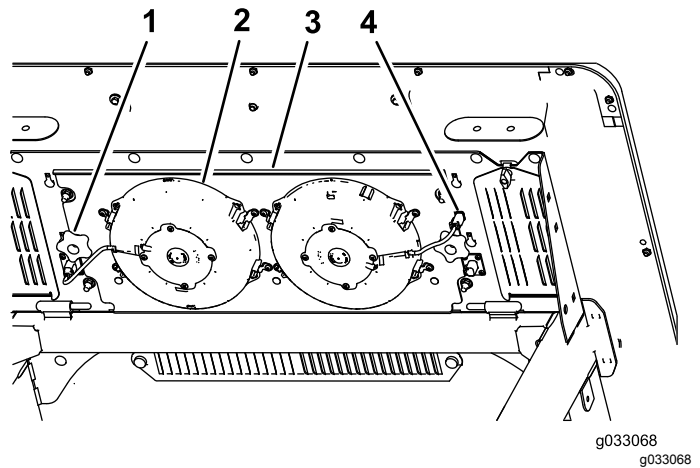

Figure 54
3. Disconnect the plug and cord for the fans from the outlet (Figure 54).
4. Remove the 2 knobs that secure the fan-panel assembly and fans to the underside of the cab top (Figure 54) and remove the assembly.